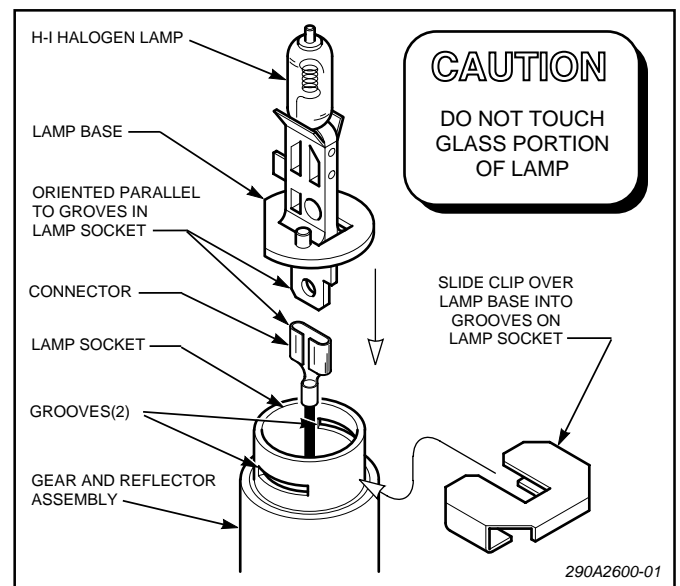

Figure 3.
2. See figure 3. Note the lamp's orientation and replace the lamp with the straight edge of the lamp's base toward the reflector. Replace the 12V lamp with Part No. 8440A265 and the 24V lamp with Part No. 8444A151.